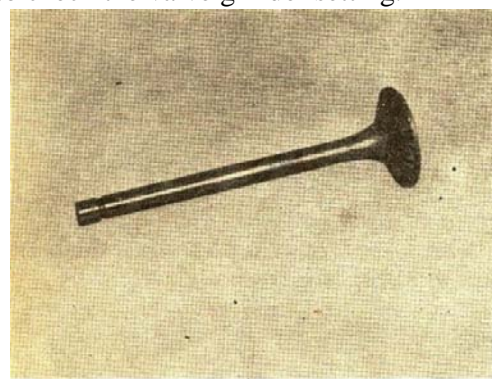

Fig. 2-22, Pencil marks on the valves
3. Mark with lead the valve face as shown in Fig. 2-22. Put the valve guide against a newly ground valve seat and rotate the valve 10 degrees. A good seat will be indicated if all lead marks are broken. If lead marks are not broken, the grinder wheel needs cutting or grinder has not been properly adjusted. The final check should be made with a vacuum tester.